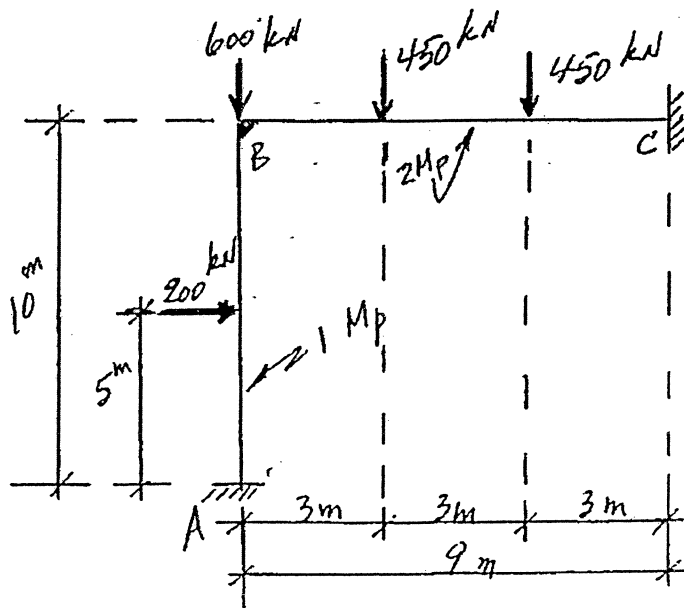

FIGURE 4
4. The steel-rigid frame, Figure 4, is to be designed using the Plastic Method of Design. The plastic moment capacities of the members are shown.
5. For the steel rigid frame in Figure 4:
7. The rigid frame in Figure 4 is to be designed in reinforced concrete using the Limit States Design Method.